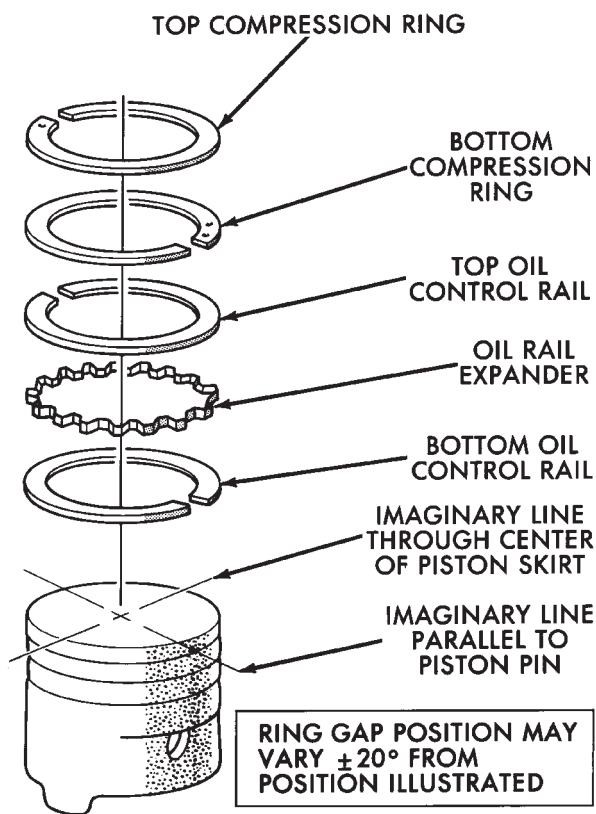
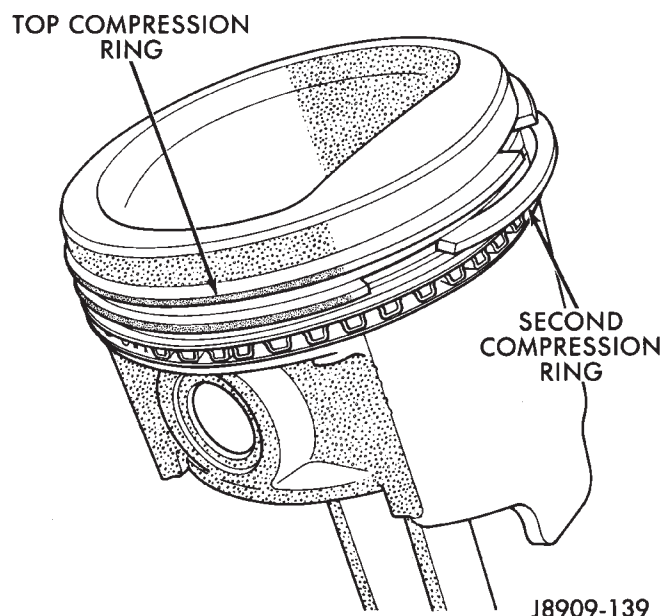

Fig. 21 Ring Gap Position
Fig. 22 Compression Ring Location
(4) Position the ring gaps and install piston rings (Fig. 21).
(5) Install the oil control rings according to instructions in the package. It is not necessary to use a tool to install the upper and lower rails. Insert expander ring first, then side rails.
(6) The two compression rings are different and cannot be interchanged (Fig. 22). The top ring is a moly ring (the scraping edge is gray in color). The second ring is a black cast iron ring (the scraping edge is black in color when new).
(7) The compression rings can be identified by a chamfer of either the top or bottom inside edge (Fig. 22). The rings may also be identified by 1 or 2 dots on the top surface of the ring.